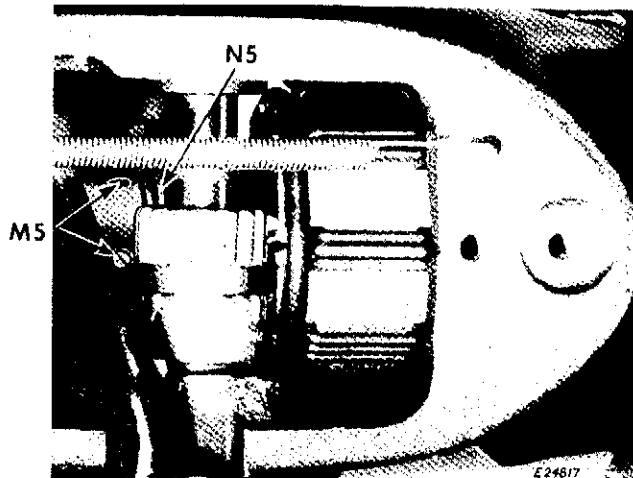

Fig. 84. Adjusting Needle
To time the pendulum movement of the needle bar, loosen two set screws **M5, Fig. 84** in the worm gear **N5, Fig. 84** in the gear box on top of the machine and free gear **N5** from arm shaft.
toward the operator or away from the operator while keeping gear **N5** in place by holding a screwdriver over one of two set screws **M5, Fig. 84**. When a desired setting is obtained, tighten one of the set screws **M5** and recheck pendulum movement. If results are satisfactory, securely tighten both screws.
9. If needle is not at correct height when the click is heard, loosen set screws **M5, Fig. 84** in worm gear **N5** on arm shaft and slide gear to right or left to correct the condition.
Release FASHION disc follower frame. If the FASHION disc follower frame stud seats in the square slot of the gauge, no adjustment of the worm gear **N5**, **Fig. 84** on arm shaft is necessary.
4. Loosen two screws **M5, Fig. 84** which hold driving worm gear to arm shaft.
7. Tighten securely one of two set screws, **M5, Fig. 84** on arm shaft driving worm gear.
9. Rotate arm shaft with hand wheel and securely tighten second screw **M5, Fig. 84** on gear **N5**.